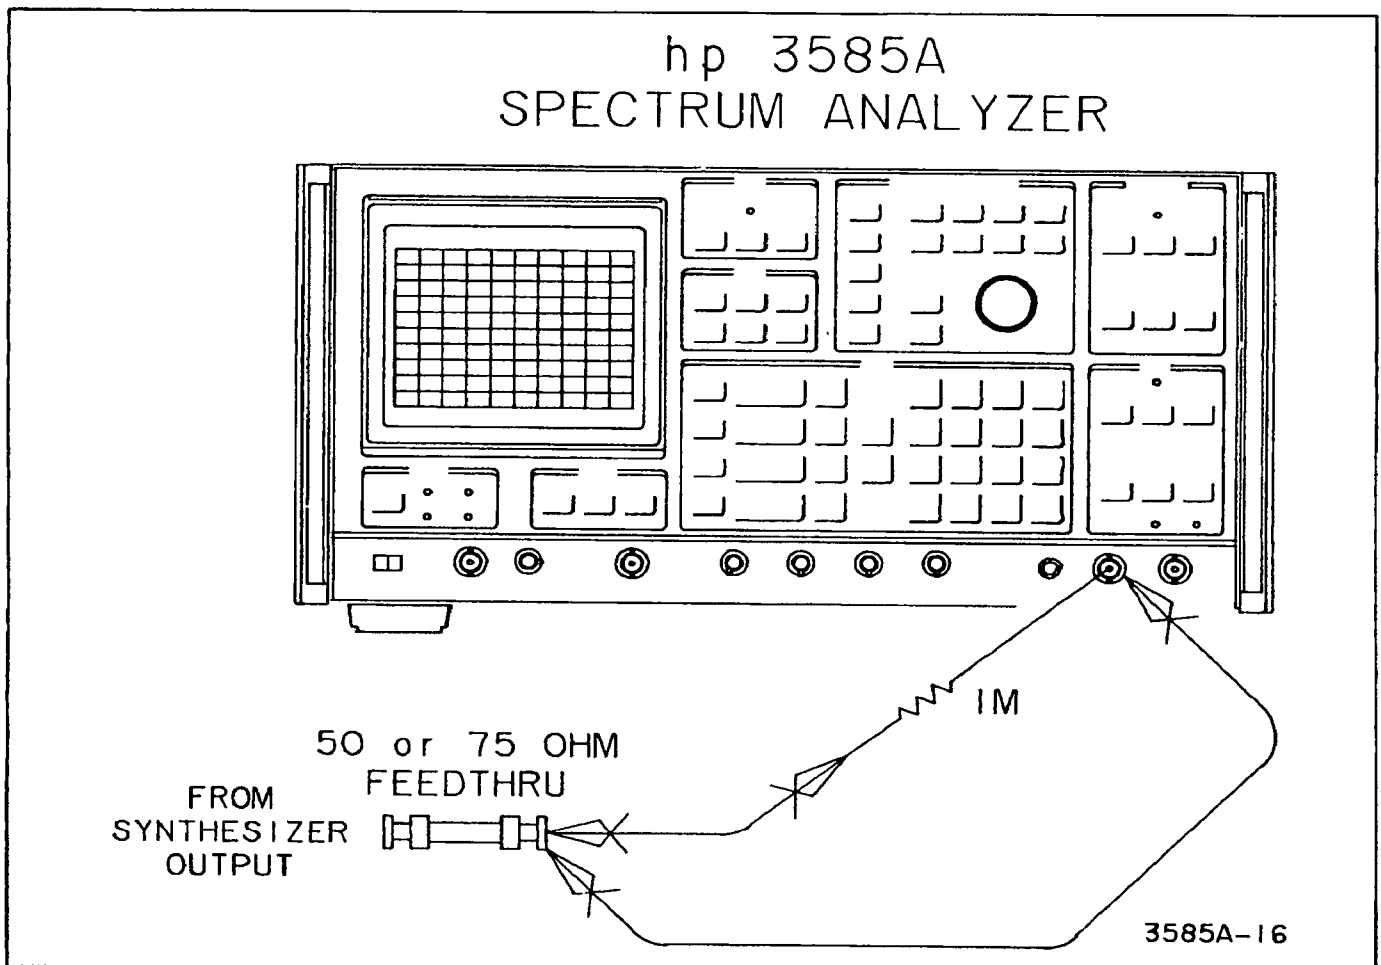

Figure 4-2. 1 M Ohm Input Impedance Test.
- e. Using short clip leads, insert the 1 M Ω resistor between the output of the termination and the 3585A 1 M Ω input as shown in Figure 4-2.